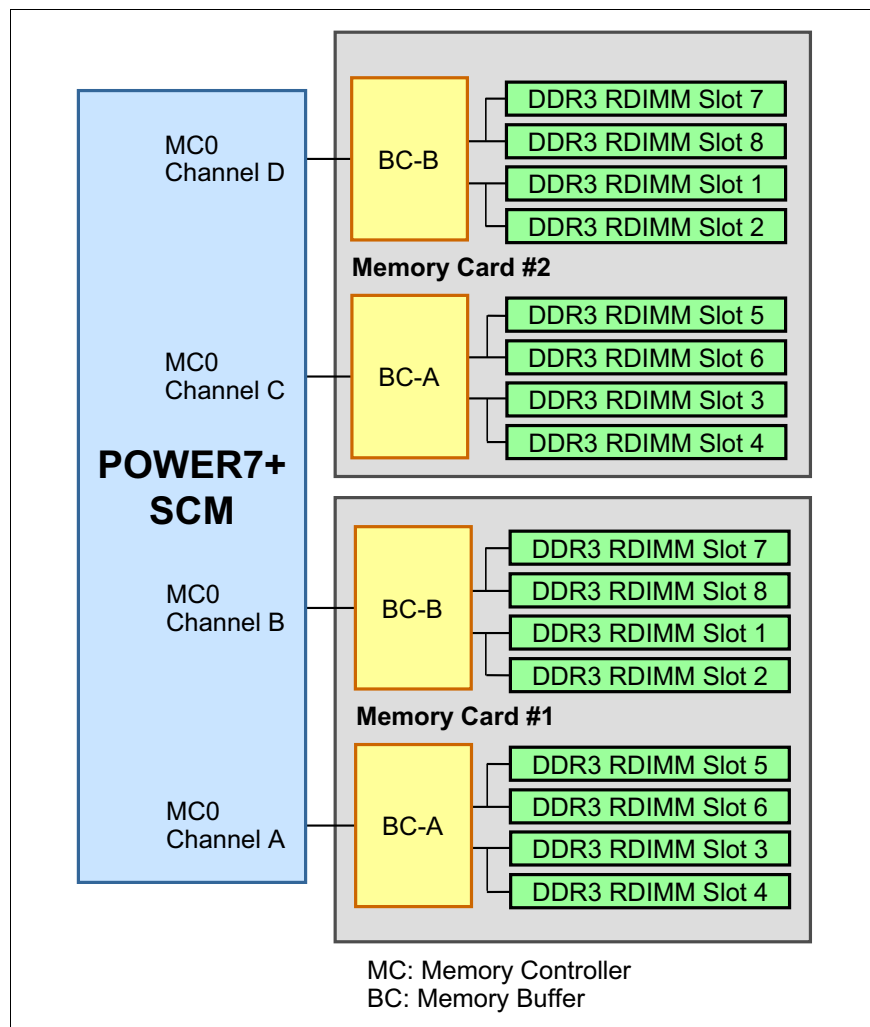

Figure 2-8 Memory DIMM topology for the Power 720 or Power 740
Figure 2-8 shows the logical memory DIMM topology for the POWER7 processor card.
- ▶ Memory: The Power 720 and Power 740 system use one memory controller of the POWER7+ processor. The memory controller is connected to a buffer chip that uses four ports with 8 bytes. Each buffer chip connects to four DIMMs that are running at 1066 MHz, with two DIMMs being active at a given point in time. See Figure 2-8 on page 54 for reference. The bandwidth formula is calculated as follows: